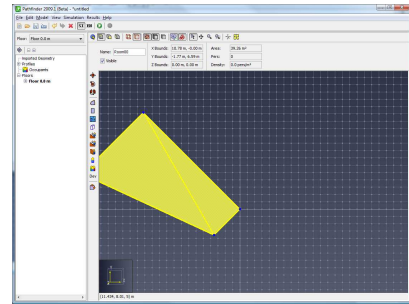

Figure 139. Rotated object
- The third defines a second vector extending from the rotation base (Figure 139). The rotation angle is the angle between these two vectors.